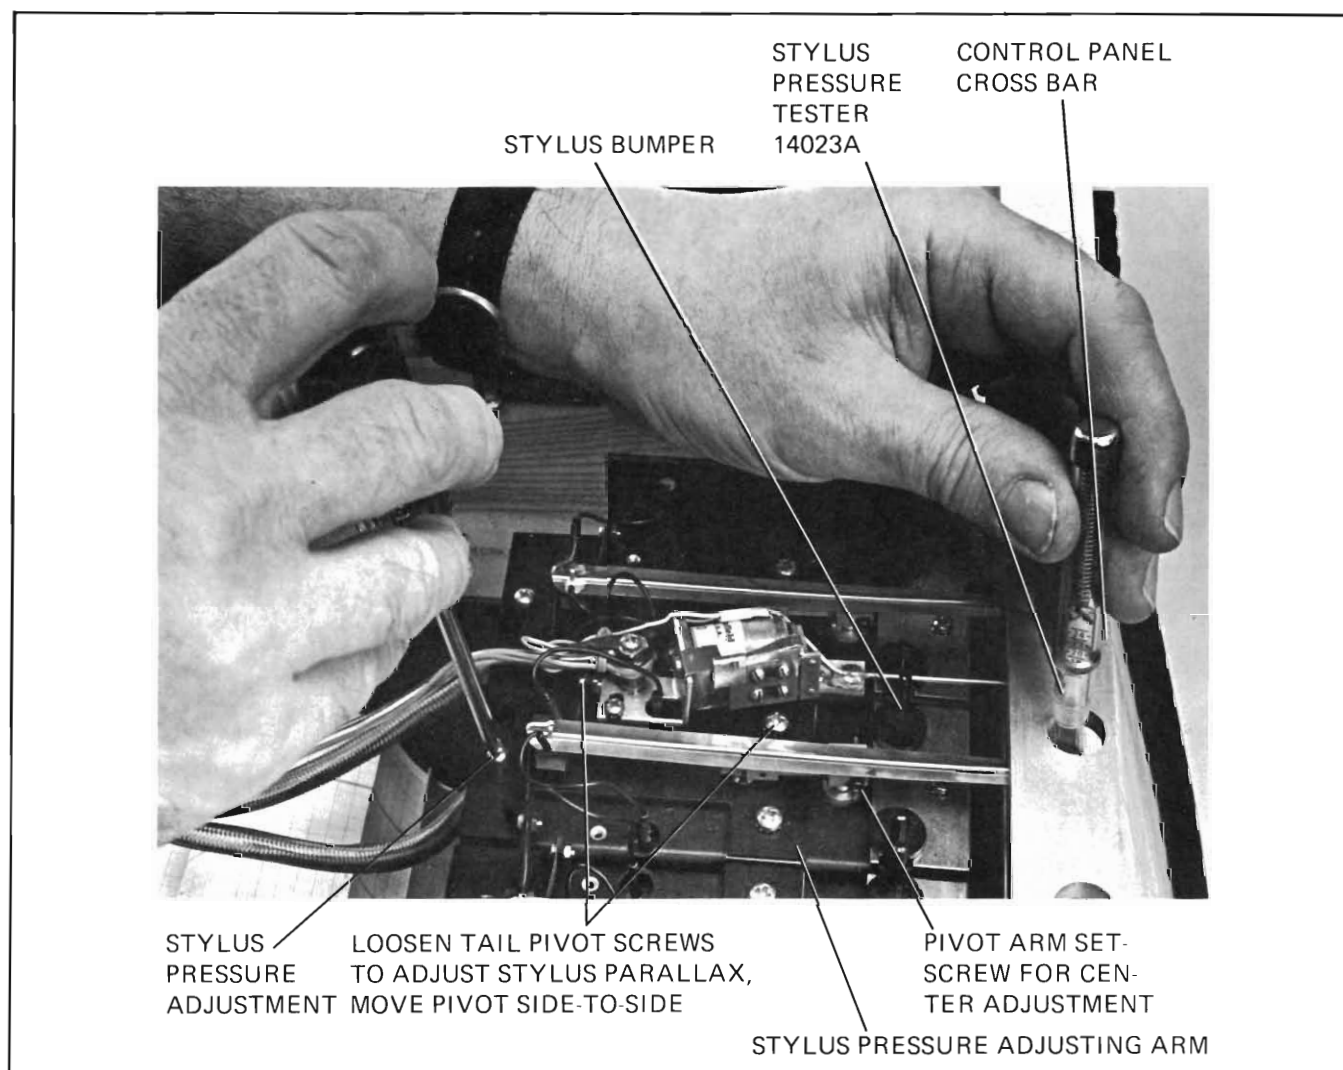

Figure 5-8. Stylus Adjustments
5-31. **STYLUS PRESSURE ADJUSTMENT.** Stylus pressure must be checked at the *tip* of the stylus only, for accurate readings. For access to the stylus tips, four holes are provided in the front top bar. See Figure 5-8 and proceed as follows:
tester should read 20 grams, ± 2 grams. Read tester with respect to top of fluted ring (Figure 5-8).
d. If pressure adjustment is required, turn adjusting screw (Figure 5-8).
a. Loosen two screws indicated in Figure 5-8 and move stylus tail pivot into proper position. Tighten both screws snug but not tight.
- d. Remove the control switch cover bracket and the control panel cross bar (Figure 5-8). Unplug galvanometer, interlock and marker cables.